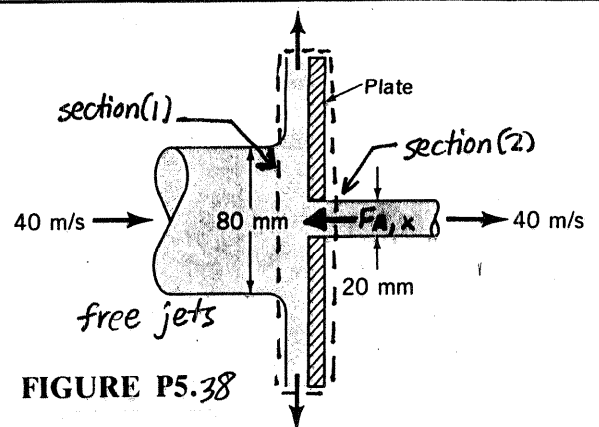

FIGURE P5.38
5.38 A circular plate having a diameter of 300 mm is held perpendicular to an axisymmetric horizontal jet of air having a velocity of 40 m/s and a diameter of 80 mm as shown in Fig. P5.38. A hole at the center of the plate results in a discharge jet of air having a velocity of 40 m/s and a diameter of 20 mm. Determine the horizontal component of force required to hold the plate stationary.